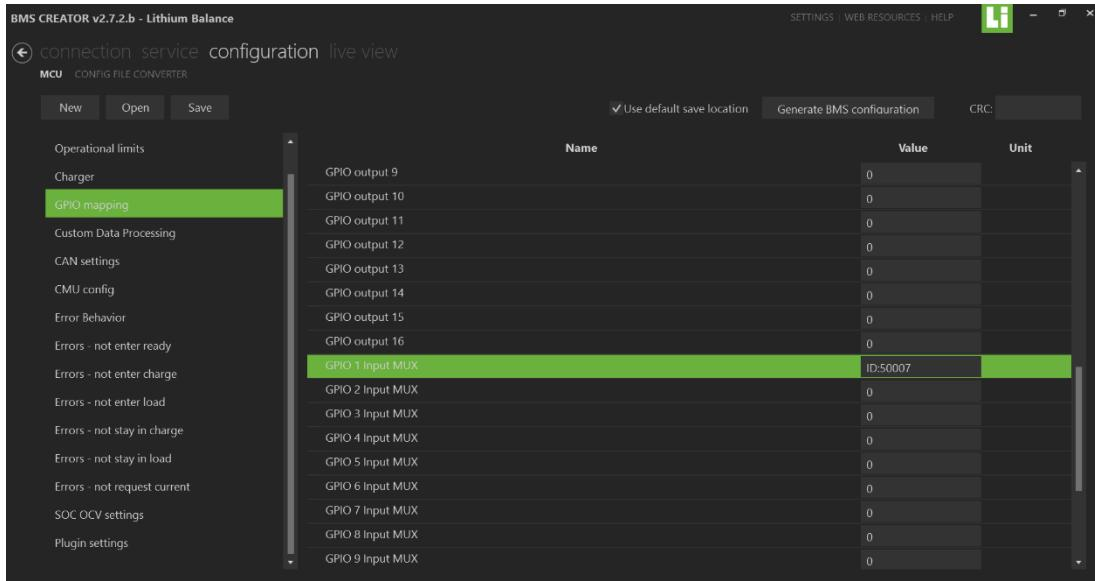

Figure 68 : BMS Creator : Enabling GPIO Digital Input via BMS Memory ID Location
- b) The memory ID location needs to be specified in the GPIO Input 1 field as shown in Figure 68.